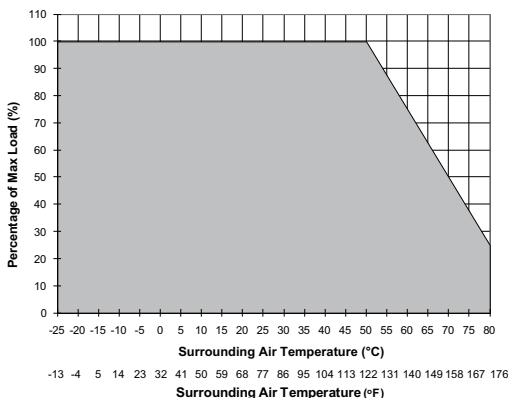

Figure 7
5.4. Thermal behavior (Fig. 7)
Ambient operating temperature	-25°C to +80°C [-13°F to 176°F] (Refer to Fig. 7)